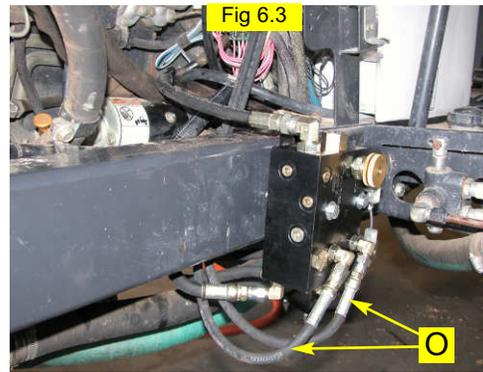

Fig 6.3
Route the provided output hoses (O) up from the A and B ports of the hydraulic control block and attach the elbow hose ends to the branches of the run-tees (J). (Figure 6.3 - 6.7)